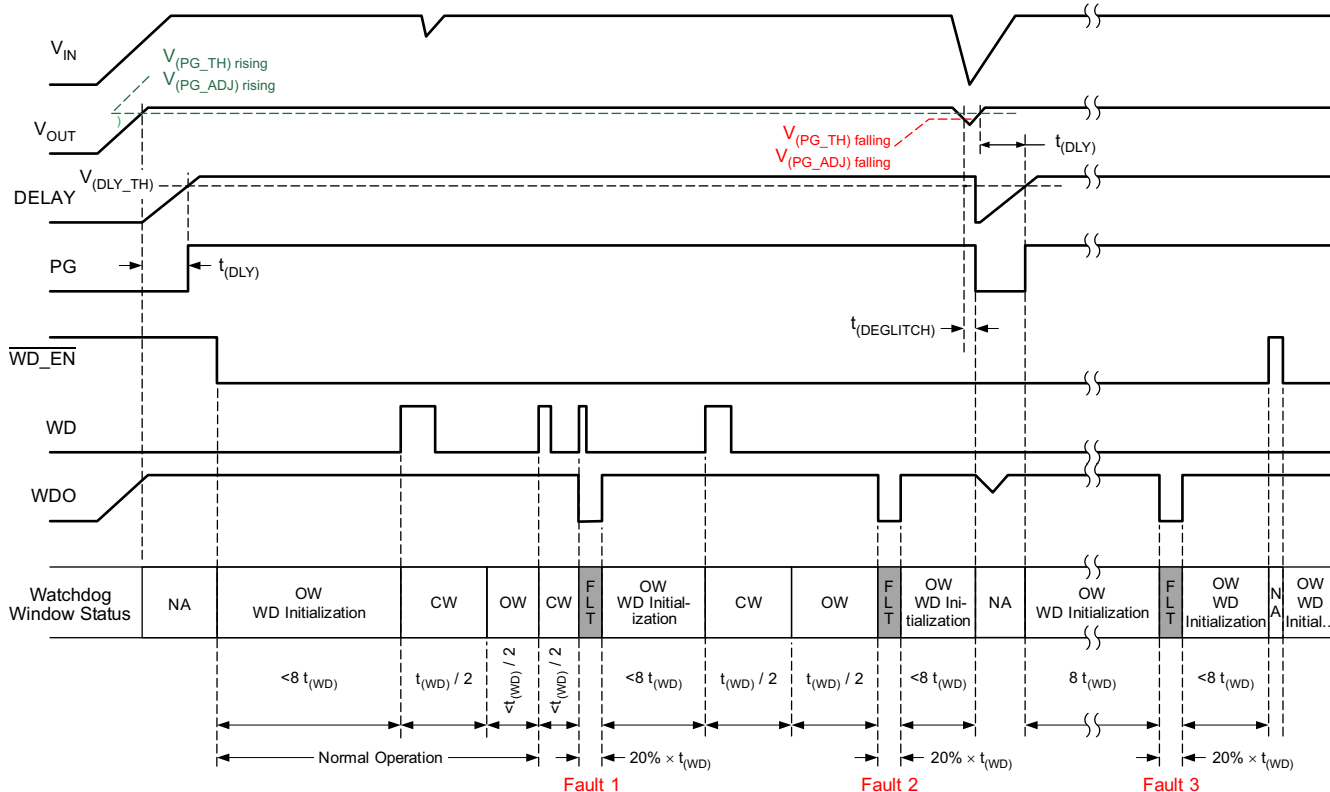

Figure 6-4. Window Watchdog Operation
The window watchdog is able to monitor whether the frequency of the watchdog service signal (WD) is within certain ranges. A watchdog low-voltage fault is reported when the frequency of the watchdog service signal is out of the setting range. Figure 6-4 shows the window watchdog initialization and operation for the TPS7B63-Q1 (WRS is low). After the output voltage is in regulation and PG is high, the window watchdog becomes enabled when an external signal pulls $\overline{\text{WD_EN}}$ (the watchdog enable pin) low. This causes the watchdog to initialize and wait for a service signal during the first initialization window for 8 times the duration of t_{WD} . A service signal applied to the WD pin during the initialization open window resets the watchdog counter and a closed window starts. To prevent a fault condition from occurring, watchdog service must not occur during the closed window. Watchdog service must occur during the following open window to prevent a fault condition from occurring. The fault output (WDO), externally pulled up to V_{OUT} (typical), stays high as long as the watchdog receives a proper service signal and there is no other fault condition.
Three different fault conditions occur in Figure 6-4: